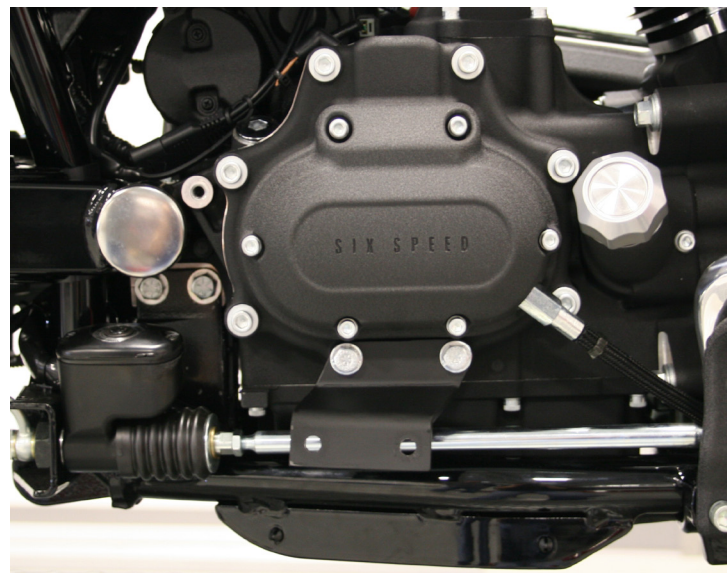

Figure 2
1. Install bracket 703-P to the transmission cover using a 5/16" x 1 1/2" flange bolt, torque to 18-24 ft/lbs, see *(Figure 2)*.